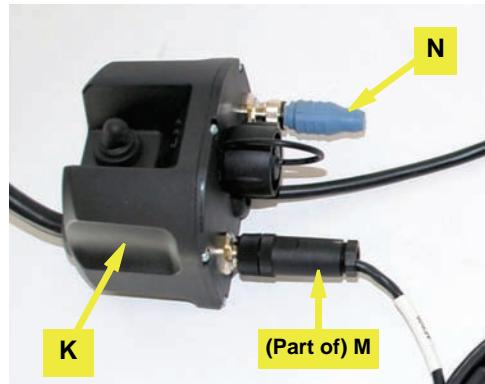

Figure 6d: CAN harness and terminator connected to junction box
- e. Connect the threaded 5-pin connector on the CAN bus harness **M** to either of the threaded connectors on the junction box **K**. Connect the CAN bus terminator **N** to the other threaded connector on the junction box (Figure 6d).